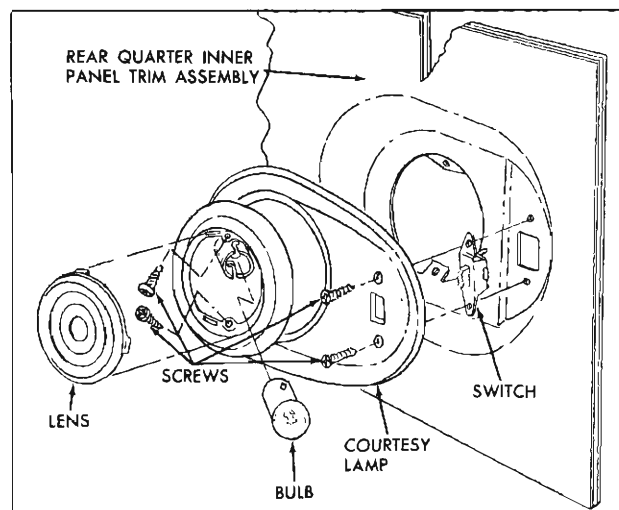

Fig. 71—Rear Quarter Courtesy Light and Switch
1. On "45" styles, remove screws securing courtesy lamp and switch assembly to trim panel and carefully remove assembly sufficiently to disengage wires at rear of lamp and switch. Remove rear finishing panel (fig. 71).